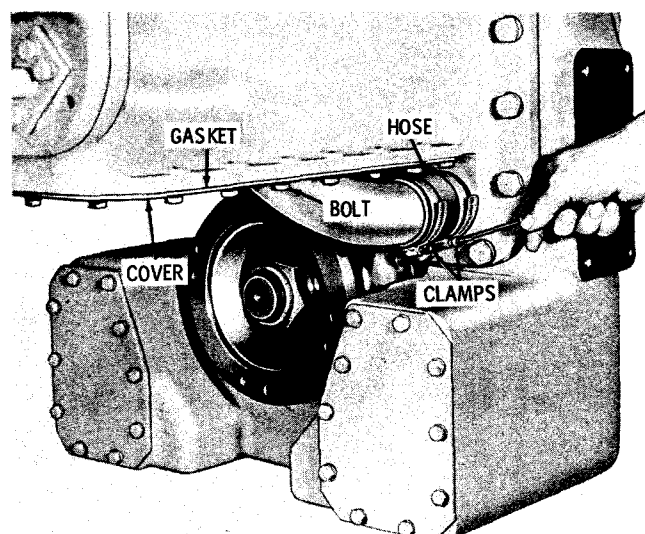

Fig. 7-128. Installing transmission drain pan hose clamps (vertical transfer housing) S1763
(20) On vertical dropbox models, install the oil drain cover gasket and cover. Retain the cover with twenty-eight 3/8-16 x 7/8-inch bolts and lockwashers. Tighten the bolts to 26 to 32 pound feet torque. Install the hose and retain it with two clamps (fig. 7-128):